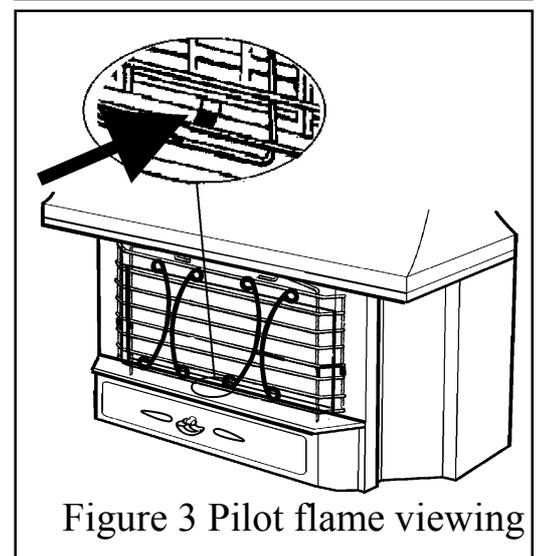

Figure 3 Pilot flame viewing
- Depress the control knob and turn anticlockwise towards the ignition (1 ⚡) position. A spark should be generated at the pilot while turning. The spark should ignite the pilot. **If it does not**, keeping the knob depressed, continue to turn the knob anticlockwise. A **second** spark should ignite the pilot. The pilot flame can be seen through the opening immediately below the centre radiant – See figure 3. If the pilot does not light, turn the knob back to OFF and try again.
- *While keeping the knob depressed, light the pilot by inserting a long match or taper into the pilot viewing opening (See figure 3).*